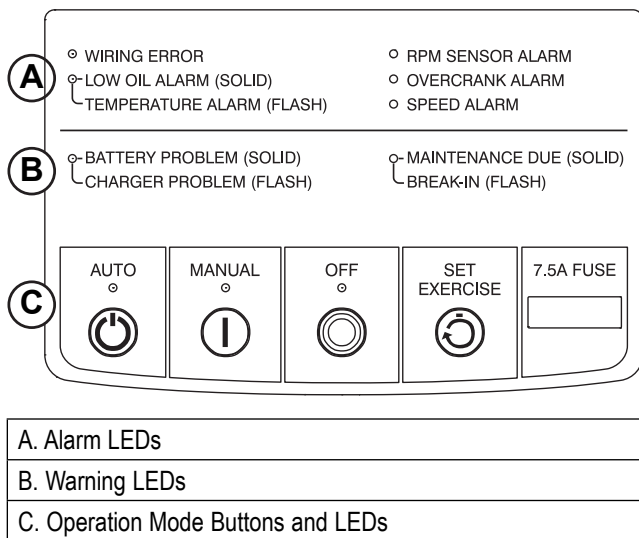

Figure 11. Control Panel
2. Contact Generac to obtain your activation code. Call - 1-888-9/ACTIVATE (922-8482, US & CA only) or go to www.activategen.com. For areas outside of the US & CA, please dial the international activation line 262-953-5155. The activation code, you will be given, consists of a sequence of six (6) button presses using the AUTO, OFF and SET EXERCISE buttons. See Figure 11. These MUST be entered in the exact and correct sequence in order to activate the generator.